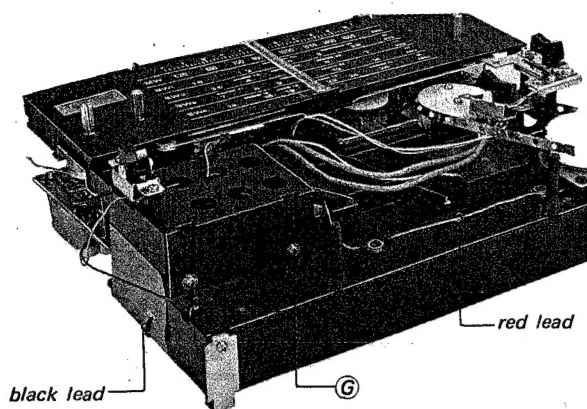

Fig. 2-10 Power circuit board removal, steps 2 and 3
2. Unsolder a black lead and a red lead as shown in Fig. 2-10.
3. Remove the two screws labeled (G) in Fig. 2-10.